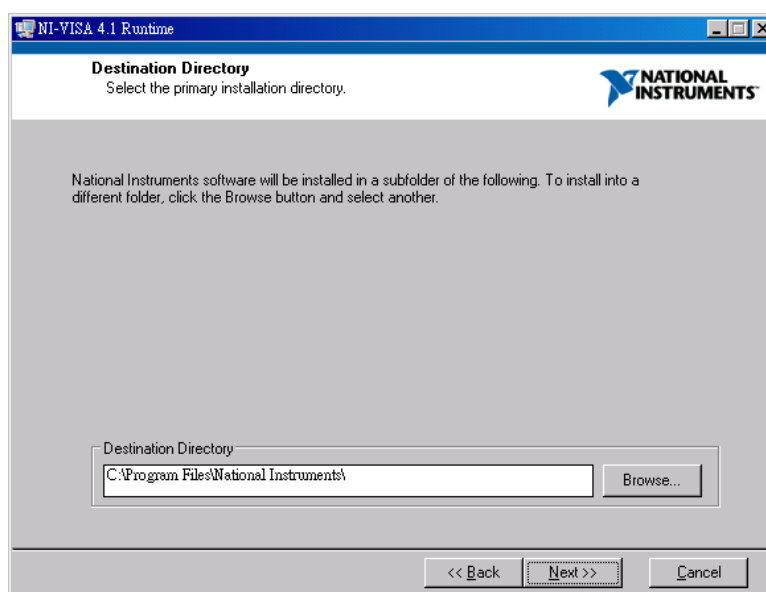

Figure 2-6 Setup for Installation Path
2. It is suggested to end the other executing applications first and click **Next** to start the installation. It will then go to the next step to ask the user for the installation path as Figure 2-6 shows.